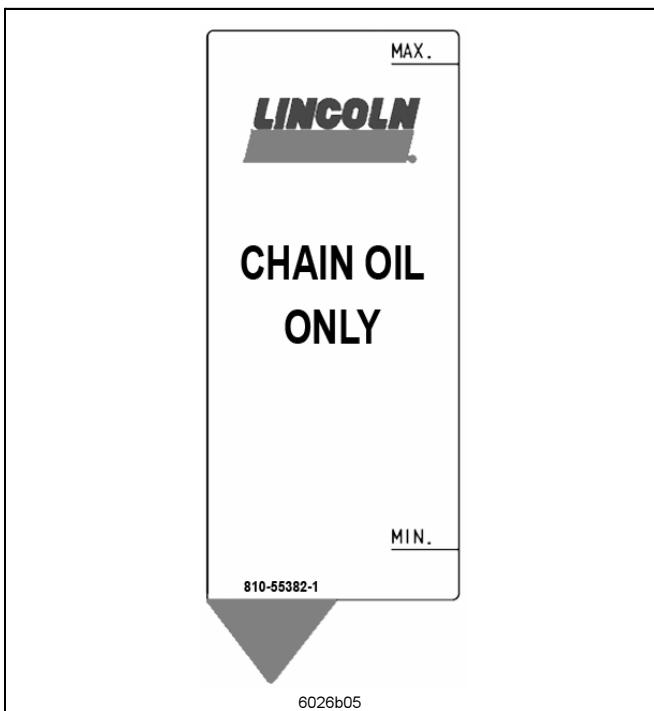

Fig. 8 Level control of the MOP reservoir
- ⦿ Make sure that the oil level does not fall below the minimum (Fig. 8, MIN marking)